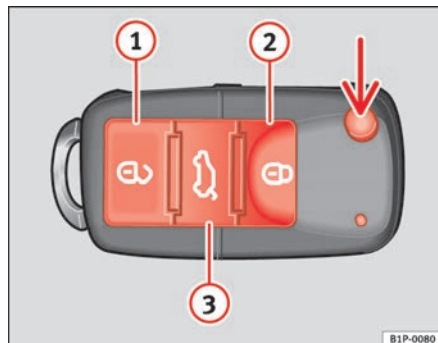

Fig. 43 Assignment of buttons on the remote control key
Using the button $\Rightarrow$ fig. 43 (arrow) on the control, the key shaft is released.
Unlocking the vehicle $\Rightarrow$ fig. 43 ①.
Locking the vehicle $\Rightarrow$ fig. 43 ②.
Unlocking the tailgate. Press the button $\Rightarrow$ fig. 43 ③ until all vehicle indicators briefly flash. When the unlocking button $\Rightarrow$ fig. 43 ③ is pressed, you have 2 minutes to open the door. After this period, the door is locked once more.
To change the locking / unlocking status, press the button  or the button  (1) ⇒ page 78, fig. 43 on the remote control key.